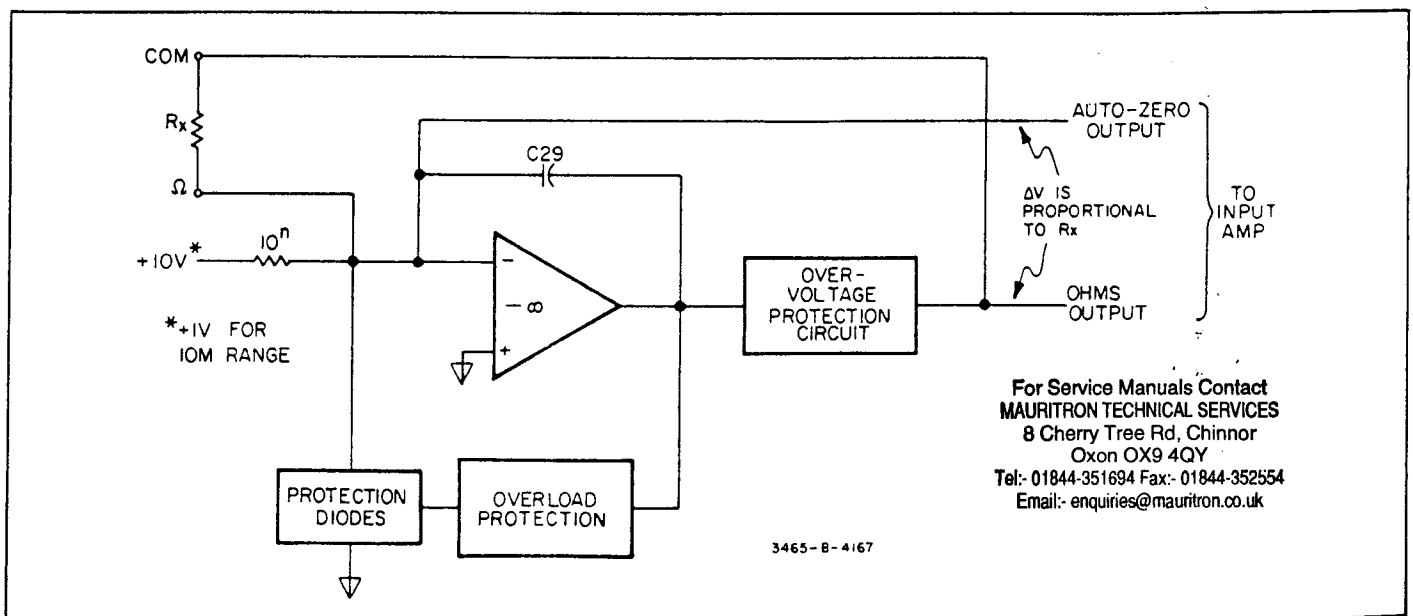

Figure 4-2. Simplified Diagram, Ohms Converter.
4-11. **Ohms Converter.** The ohms converter is a high gain integrating amplifier. A simplified diagram of the ohms converter is presented in Figure 4-2. The blocks of the ohms converter are the integrating amplifier, protection diodes, over-voltage protection circuit and the overload loop. An integrating amplifier is used because this type of amplifier is less susceptible to oscillations. The protection diodes clamp the Ω terminal to a voltage of about 1.2 V in the positive direction or 0.7 V in the negative direction.
4-12. Figure 4-2 shows two outputs of the ohms converter being applied to the input amplifier. The ohms output is the ohms converter measurement signal and the auto-zero output is the ohms amplifier dc offset signal which is called the auto-zero (AZ) signal. This AZ signal is applied to the input amplifier during the auto-zero interval of the measurement sequence and establishes the reference for the analog-to-digital converter. An AZ signal greater than ± 1 mV causes the instrument readings to be invalid. This condition (AZ signal $> \pm 1$ mV) is present when the unknown resistance, R_x , is removed and an open loop is present on the ohms amplifier. To maintain the AZ signal at $< \pm 1$ mV when an open loop is present, an overload feedback circuit is used.